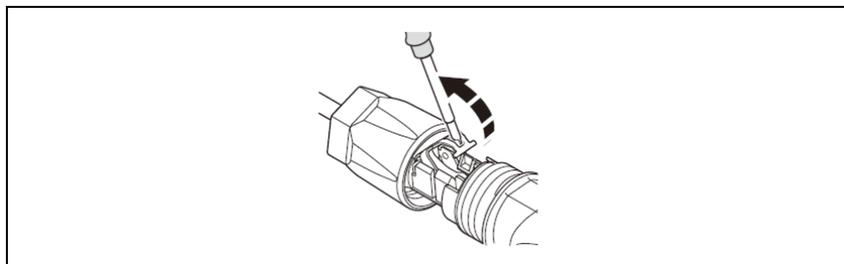

Figure 5-11
3. Open the spring using a screwdriver (Figure 5-11).